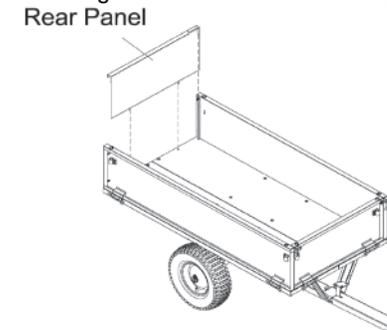

Fig. 8
**STEP 8: Attach the Rear Panel (See Fig. 8)**